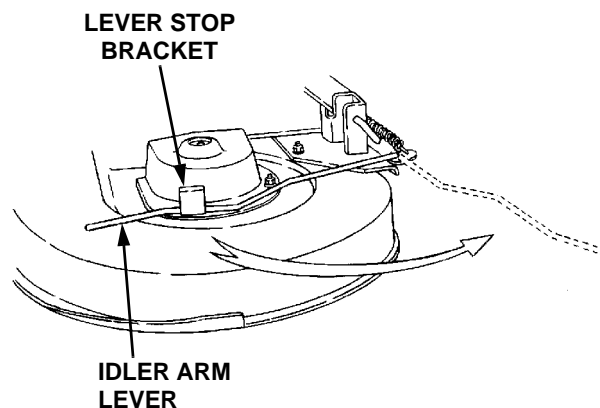

Figure 57
9. Disengage the deck idler arm lever from its stop bracket and release the spring tension by rotating the lever out and rearward (See Figure 57).